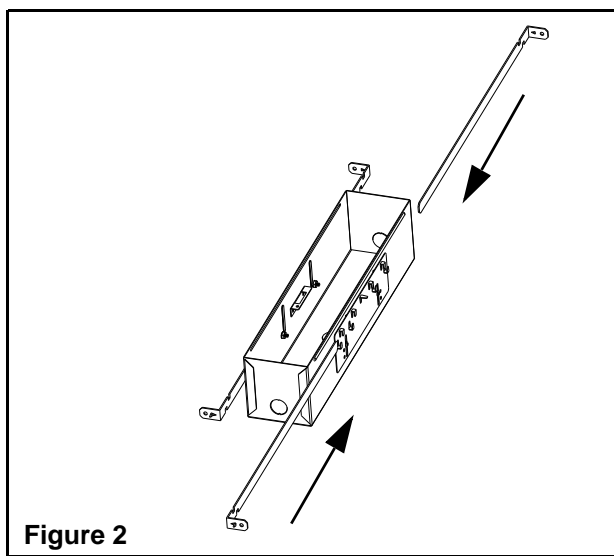
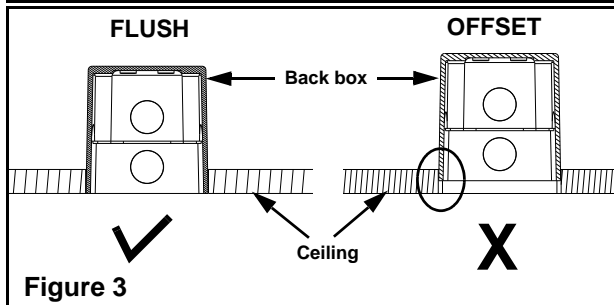

Figure 2
Figure 3
2. Install the bar hangers in the adjustment brackets (see figure 2). Mount the back box so that it is flush with the ceiling surface (see figure 3).